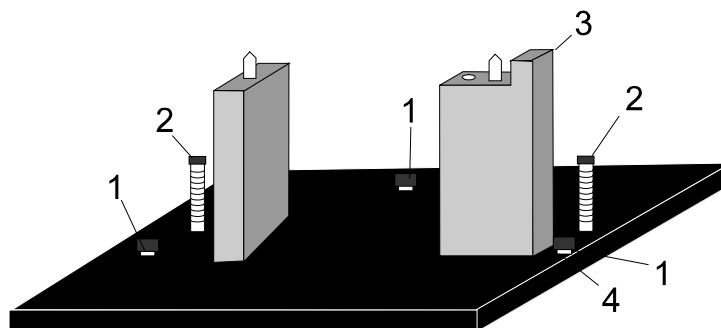

Figure 3. Cell holder base
- 2** Place the cell holder base in the sample position on the base plate. The notched pillar (see Figure 3) should be on the side to the right.